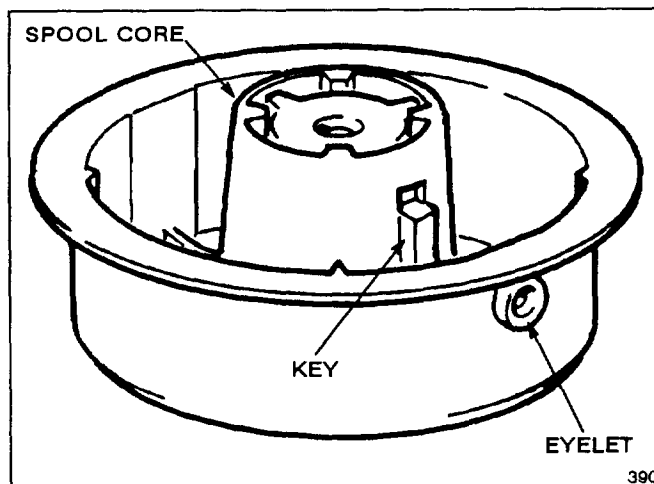
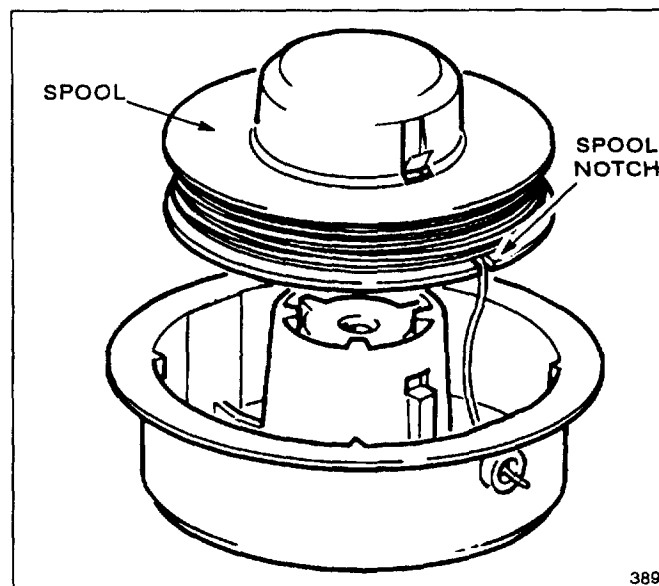

Figure 11
Figure 12
- D. The spool and core are keyed and **must** be properly aligned when putting spool back on. Push downward on spool core and rotate it until "key" feature on the core is aligned with the eyelet on the drum (Fig. 11). With line still retained in spool notch, thread end of line through eyelet (Fig. 12). Place spool onto keyed spool core; the spool notch must be aligned with eyelet and spool core key (Fig. 12). Push spool inward until you hear it click. Pull line outward while pushing spool inward to free line from notch. Unwind no more than six inches of line from spool. To extend line, pull line out while pushing spool inward. To retract line, rotate spool counterclockwise while pushing spool inward.